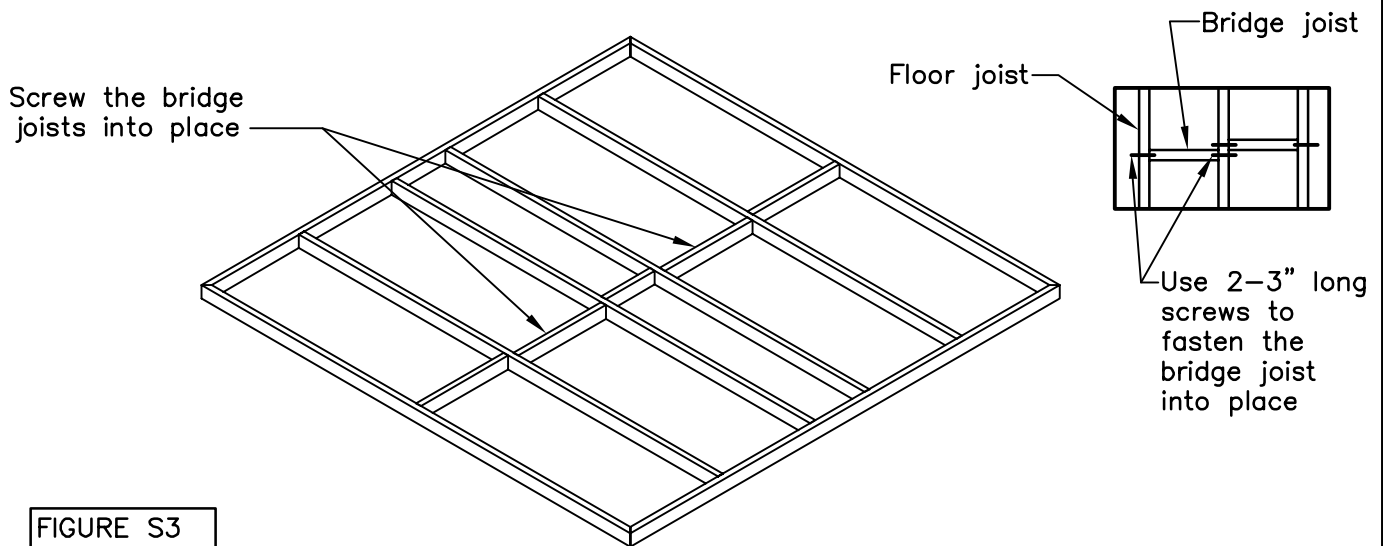

FIGURE S3
- Screw the bridge joists into place as per Figure S3.